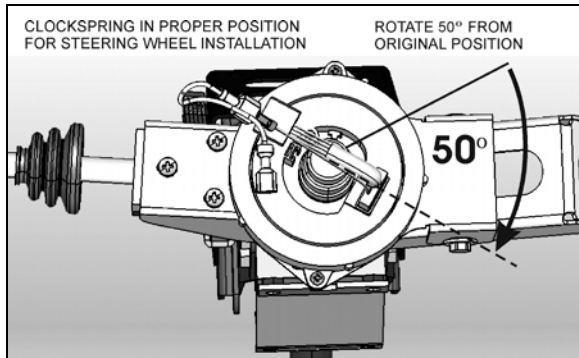

FIGURE 15: PROPER CLOCKSPrING POSITION
7. Break the paper seal and rotate the center part of the clockspring about 50° clockwise (Fig. 15). This step is necessary for the installation of the steering wheel.